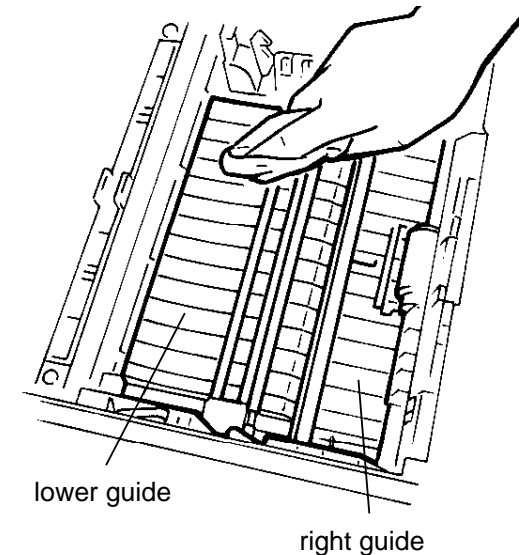

Figure 6. Printer Paper Guides
- b. Inspect or clean the right and the lower paper guides with a soft cloth and a general purpose cleaning solution (Figure 6).